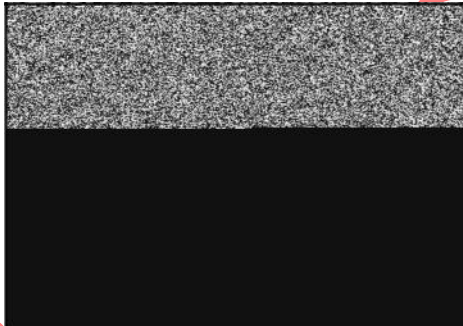
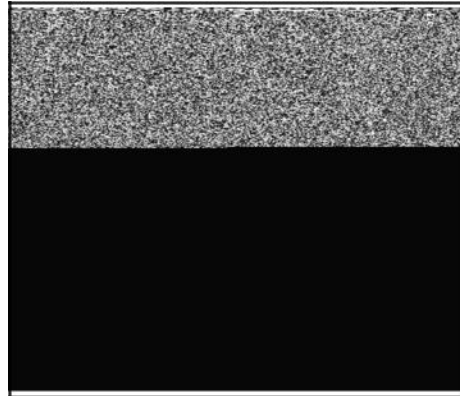

Figure 14
Figure 15
2. Loosen governor lever nut (A, Figure 14, Figure 15).